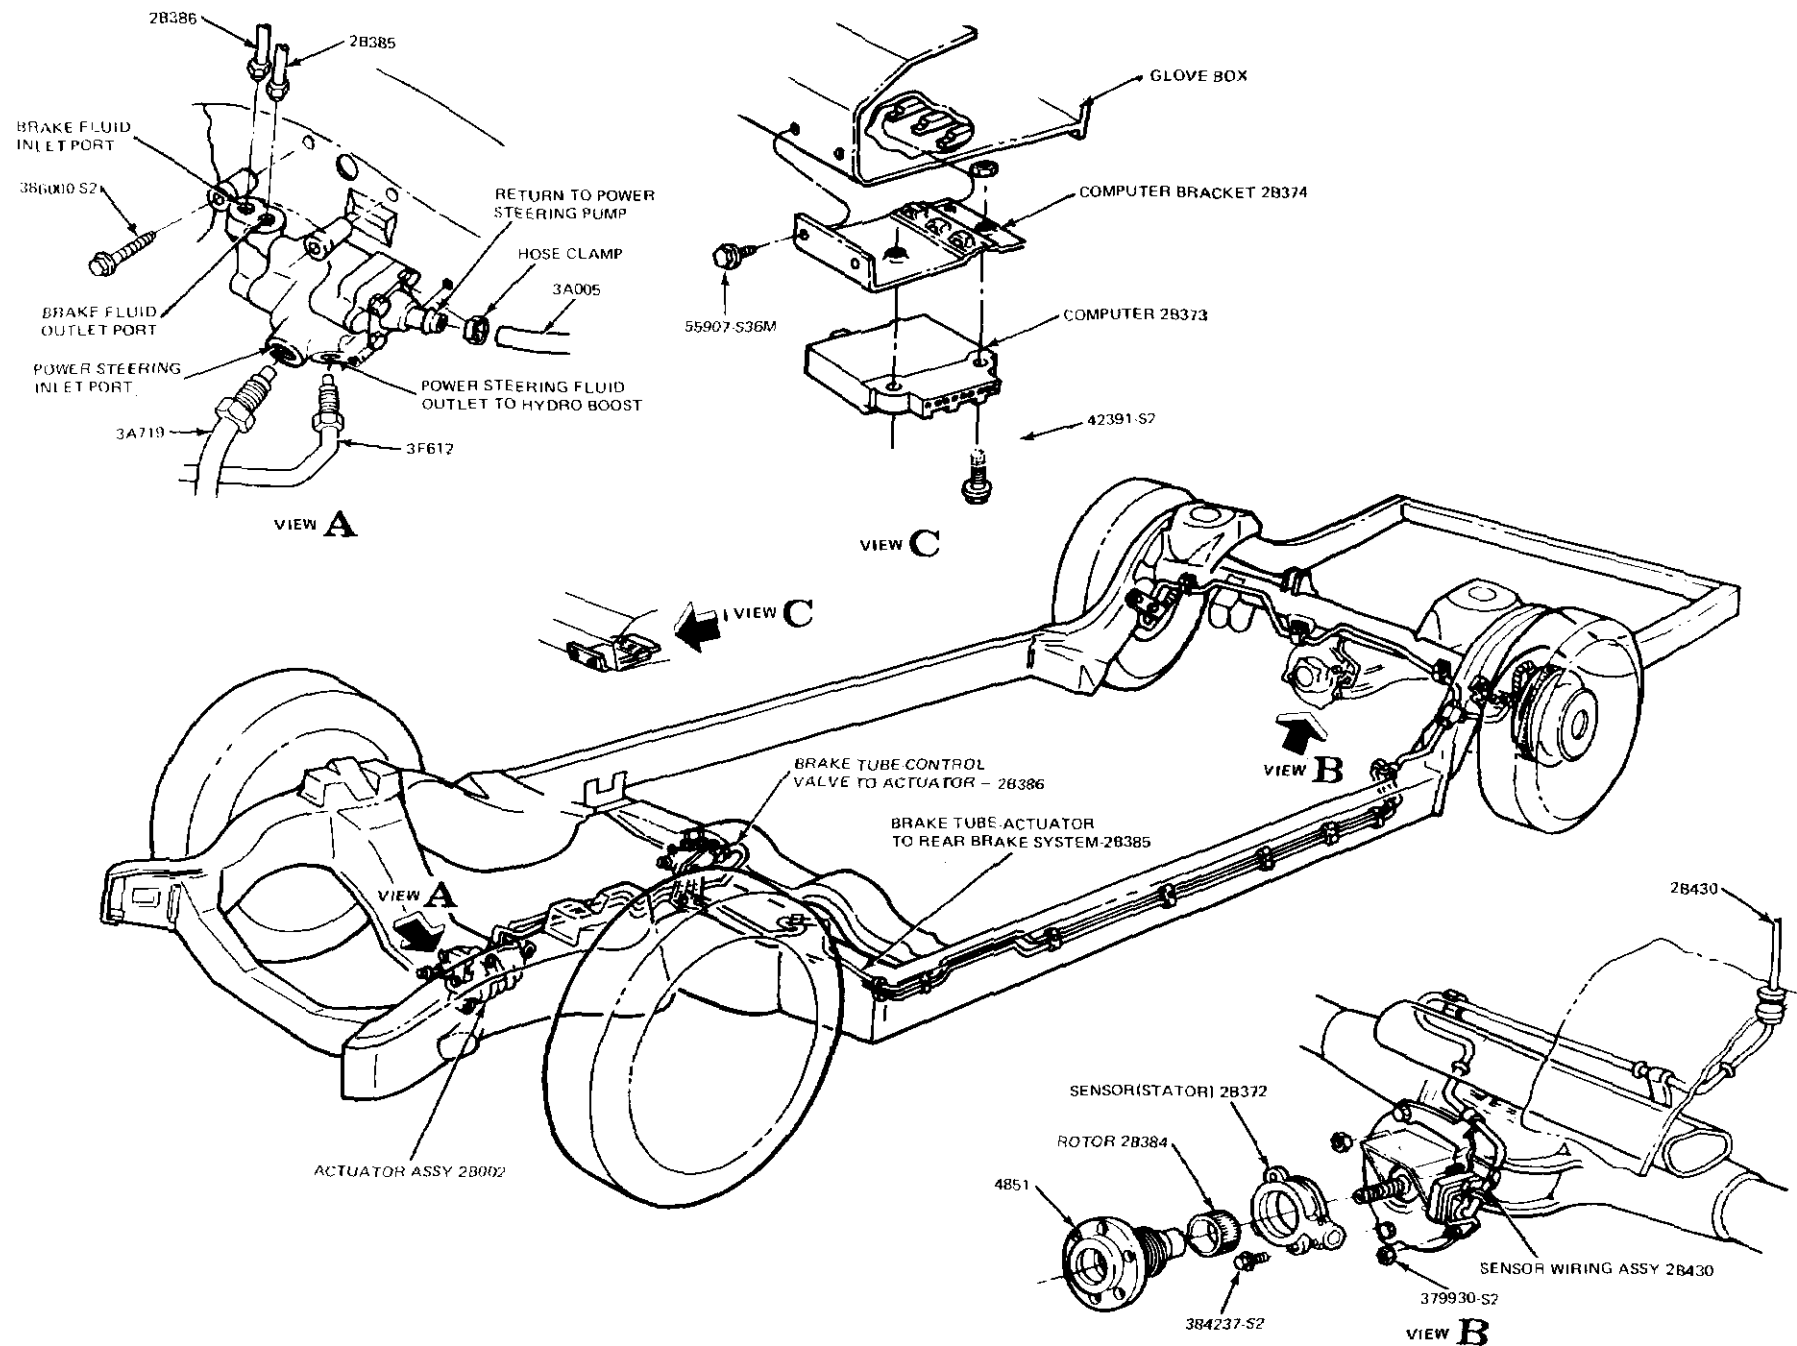

FIG. 1 Sure-Track Brake System—Lincoln Continental
1. Disconnect the wiring harness connectors under the hood at the servo assembly (Figs. 1, 3, 6, 7, 8, 9, 10, 11 and 12).
LTD II, Thunderbird, Ranchero and Cougar (Figs. 1 and 2)
Figs. 1 through 3 show the complete sure-track systems for each of the subject car lines.